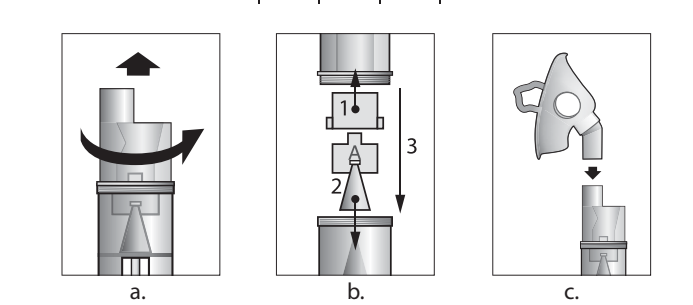

fig.2 | rys.2 | 2. ábra | fig.2 | рис.2
- Remove the top of the nebulizer by turning it counterclockwise (Fig.2 a).
- Depending on the type of inhalation, using either a mouthpiece or nozzle or mask. The mask, mouthpiece or nose nozzle is connected directly to the upper part of the nebulizer (Fig.2.c). Hold the nebulizer vertically.